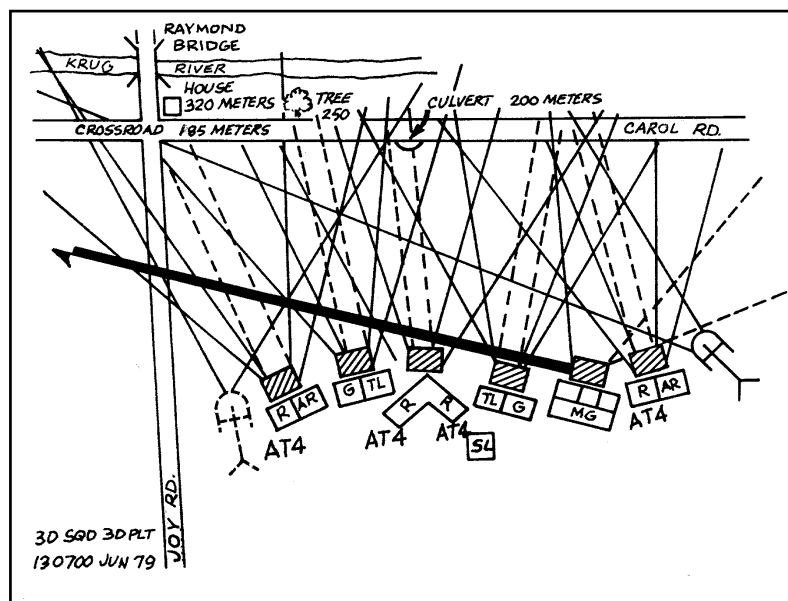

Figure 6-8. Squad sector sketch.
b. The squad and platoon leader's sector sketch identifies TRPs and primary areas of possible engagement. The sector sketch also identifies possible avenues of approach for enemy armored vehicles. Each light antiarmor weapon shares a sector of fire with the primary small-arms weapon assigned to its position. However, because it is neither a primary nor crew-served weapon, the light antiarmor weapon does not require a separate range card. When assigning sectors of fire, squad and platoon leaders inform firers of all possible target areas, TRPs, and prearranged signals (Figure 6-8). (FMs 7-7, 7-7J, and 7-8 provide more information about the squad and platoon sector sketch.) Leaders provide each designated position with two or more light antiarmor weapons.